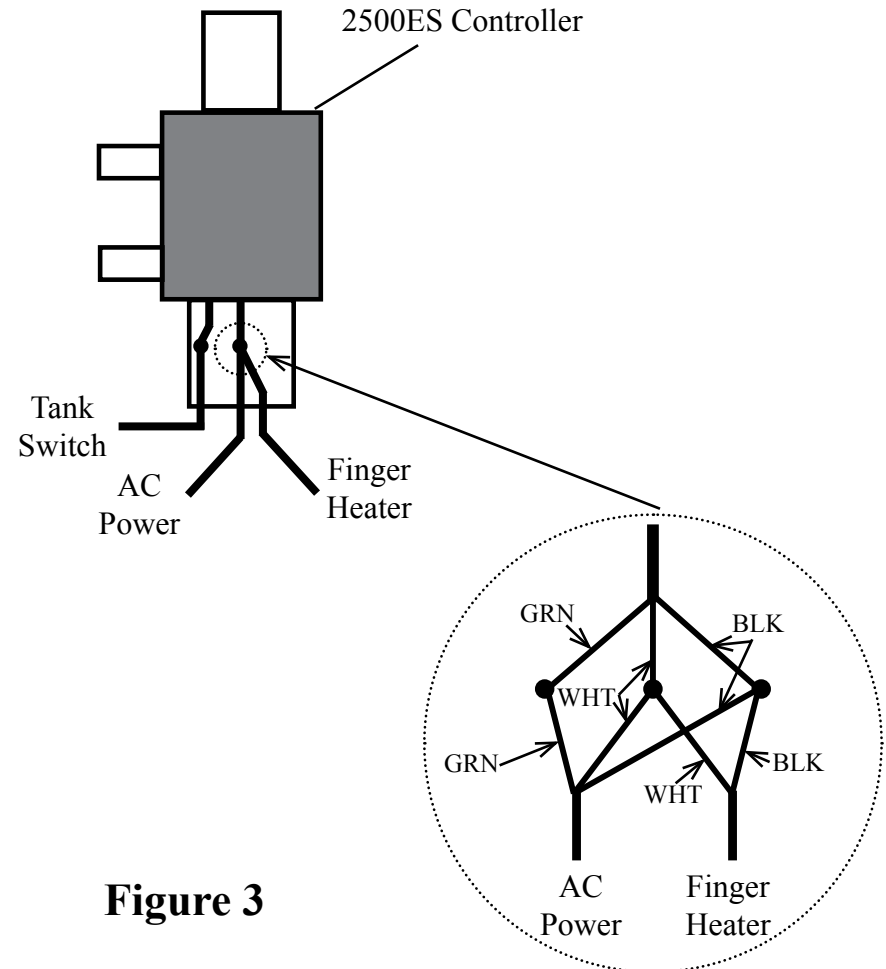

Figure 3
STEP 14. Attach the finger heater power cable to the power line in well vault. **CAUTION:** This connection should be water tight. Attach power line to controller according to (Figure 3).